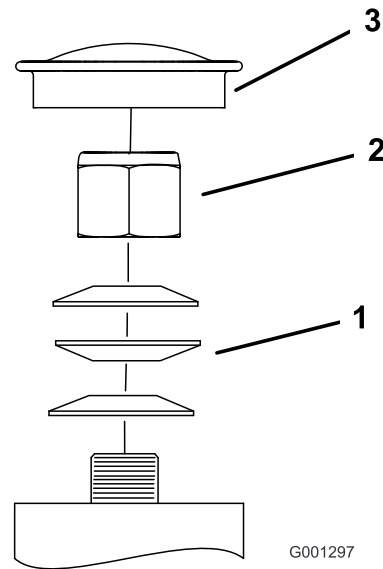

Figure 66
3. Remove the dust cap from caster and tighten locknut (Figure 66).
4. Tighten the locknut until the spring washers are flat and then back off a 1/4 turn to properly set the pre-load on the bearings (Figure 66).
Important: Make sure the spring washers are installed correctly as shown in Figure 66.
5. Install the dust cap (Figure 66).